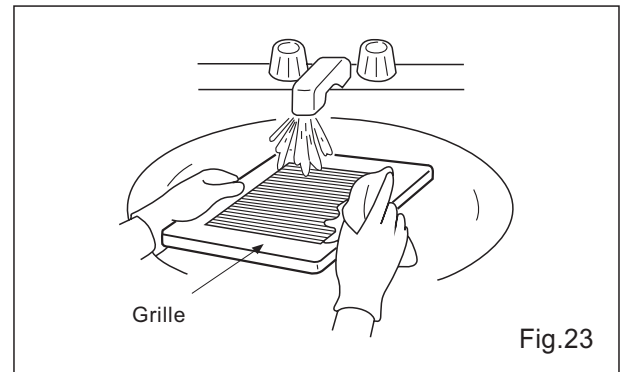

Fig.23
2. Wash and clean grille.(Use non-abrasive kitchen detergent, wipe dry with new cloth.) (Fig.23)